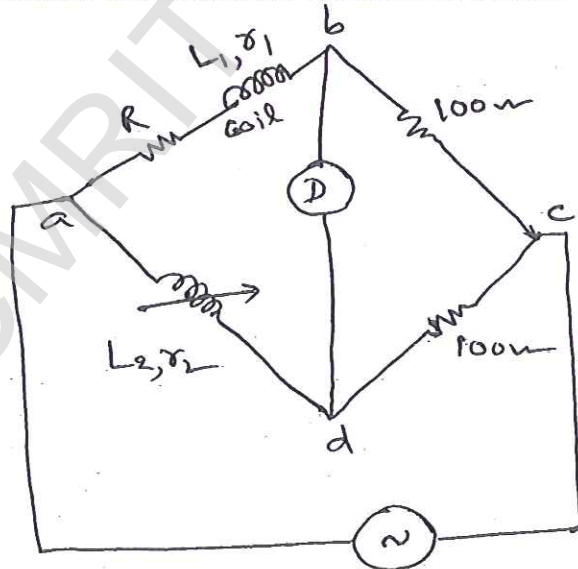

Fig.Q.2(b)
- b. A Maxwell's inductance comparison bridge is shown in Fig.Q.2(b). Arm ab consists of a coil with inductance L_1 and resistance r_1 in series with a non-inductive resistance R . Arm bc and ad are each a non-inductive resistance of 100Ω . Arm cd consists of standard variable inductor L of resistance 32.7Ω . Balance is obtained when $L_2 = 47.8$ mH and $R = 1.36\Omega$. Find the resistance and inductance of the coil in arm ab. (08 Marks)